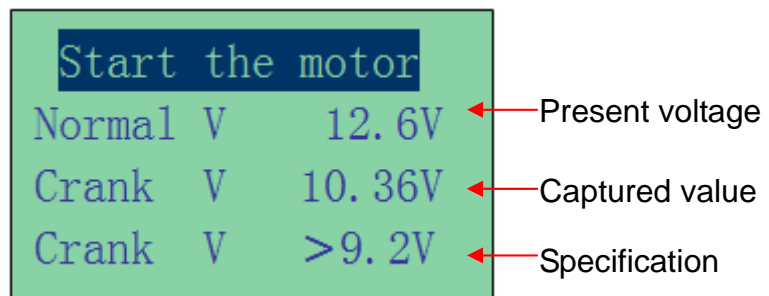

Figure 26
- From the main MENU, select 'Cranking' by scrolling down using  key. (Fig.26)
- Press  key to continue and the display will show: (Fig.26)